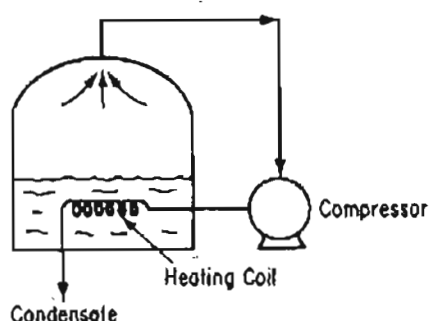

Figure P24.27
- ✓ **24.27 In the vapor-recompression evaporator shown in Figure P24.27, the vapor produced on evaporation is compressed to a higher pressure and passed through the heating coil to provide the energy for evaporation. The steam entering the compressor is 98% vapor and 2% liquid, at 10 psia; the steam leaving the compressor is at 50 psia and 400°F; and 6 Btu of heat are lost from the compressor per pound of steam throughput. The condensate leaving the heating coil is at 50 psia, 200°F.